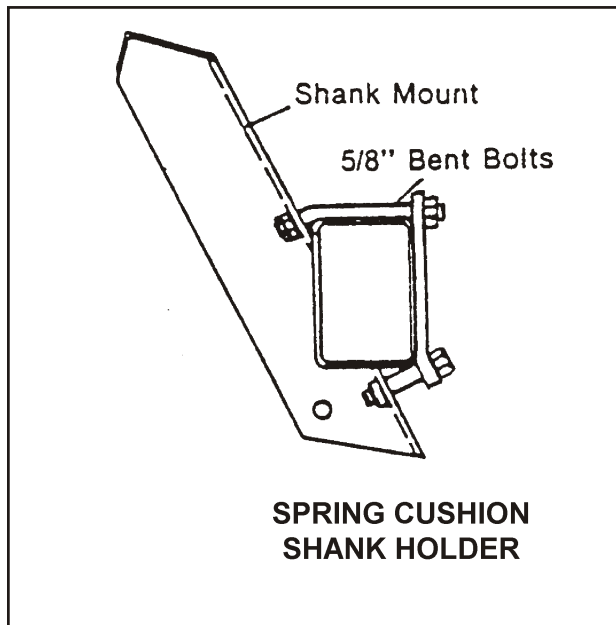

Figure 3-12 Spring Clamp Installation
SEE FIGURE 3-12 FOR PART NAMES. SEE FIGURES 2-1 THROUGH 2-6 FOR SHANK PLACEMENT.
- d. Mount shank assembly to frame with two 5/8" bent bolts and two 5/8" x 3-3/4" Grade 8 bolts, lock nuts and plate. Tighten to 170 ft-lb (231 Nm) (See Figures 3-12 and 3-13).